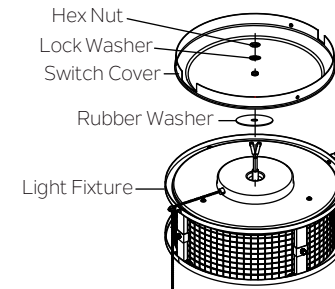

Fig. 2
Step 2. Feed the electrical wires from the light fixture through the holes in the middle of the rubber washer and switch cover (starting with one by one). Threaded the light fixture onto the switch cover and make sure the smaller cut out notch on the switch cover is nearest to the hole on the light fixture . Add the lock washer and hex nut onto the inside of the switch cover and tighten securely. (Fig. 2)